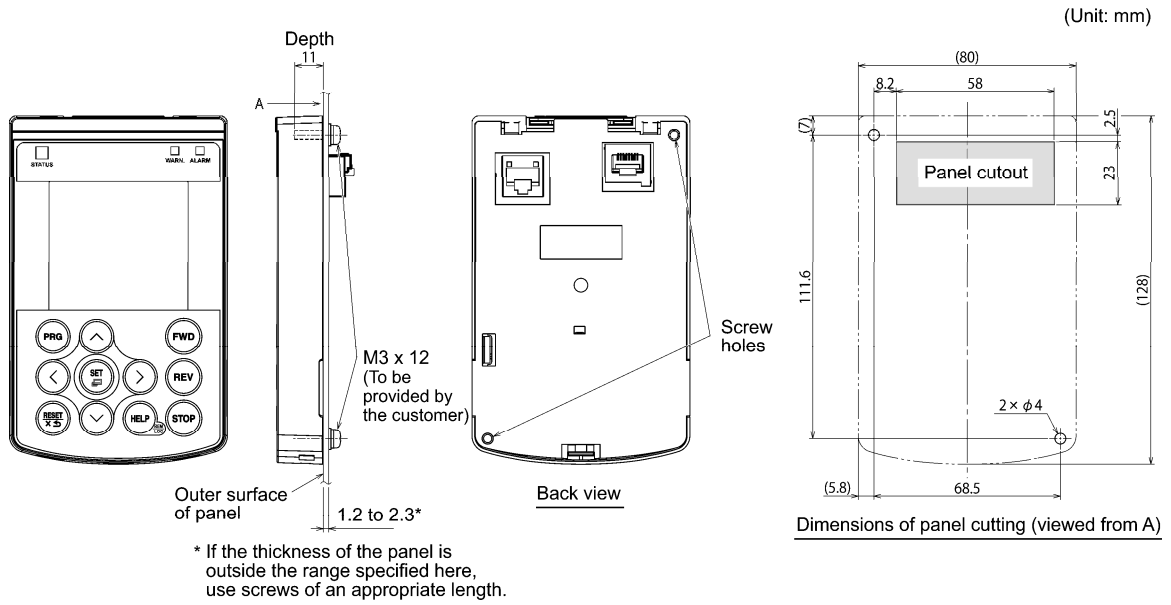

Figure 5.9 Location of Screw Holes and Dimension of Panel Cutout
- (2) Cut the panel out for a single square area and perforate two screw holes on the panel wall as shown in Figure 5.9.